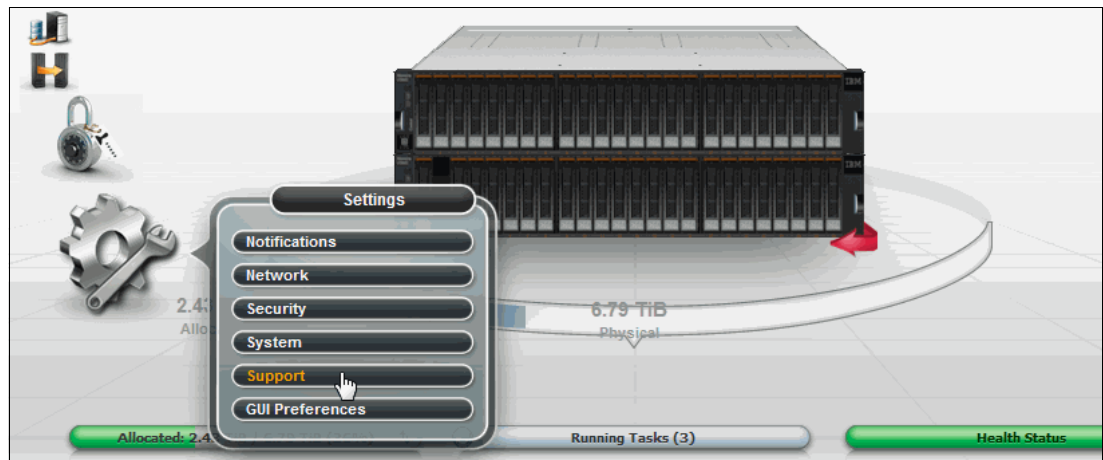

Figure 11-71 Accessing Support files
1. Browse to **Settings** → **Support**, as shown in Figure 11-71.